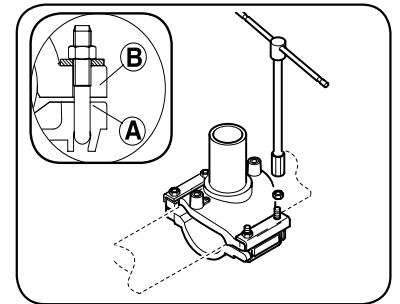

FIG. 2
- 4 Fasten the saddle on the pipe using the **FOUR BOLTS RIGID PLASTIC UNDERCLAMP**: use a wrench to tighten the four screw nuts until top part B and bottom part A come into tight contact (see fig.2).